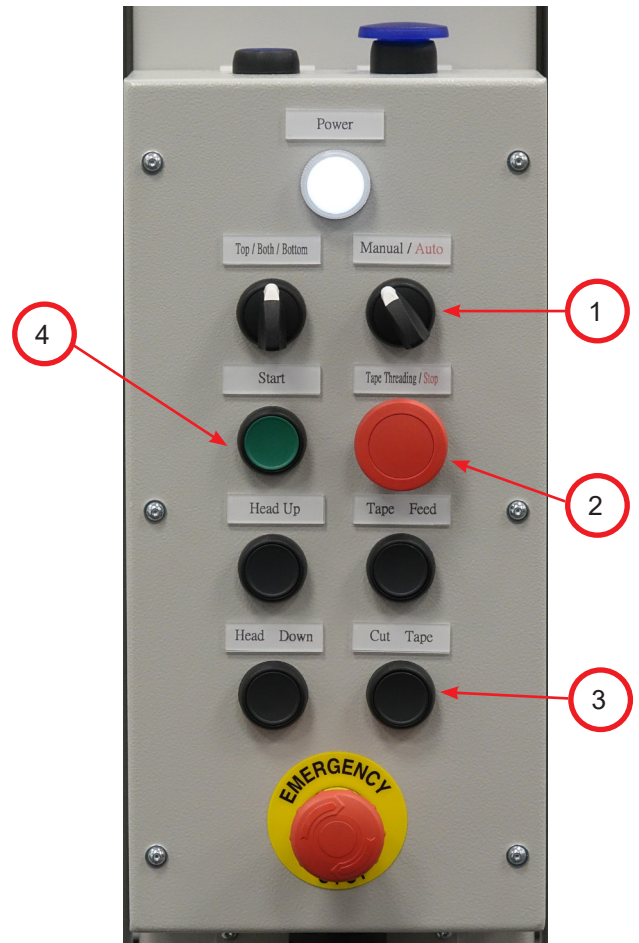

Figure 30: Operator Control Panel
1. Put machine in Manual Mode using Manual/Auto selector switch (Figure 30, Item 1).
7. Thread tape under guide plate until it reaches the pinch roller. During this process, make sure pinch roller is not engaged. To engage/disengage the pinch roller, use the Tape Threading/Stop button (Figure 30, Item 2) located on the control box.
8. Once tape has been passed under the pinch roller, engage pinch roller using Tape Threading/Stop button (Figure 30, Item 2).
9. Press down the Tape Feed button (Figure 30, Item 3) to allow machine to pass tape through tape shoe and feed out of the tape head.
10. If tape passes with no jams, remove tape from tape shoe guide, and press Start button (Figure 30, Item 4) and hold for one second to begin machine operation. If you encounter a jam, see Clear Mode (Clear Jam), on page 36.